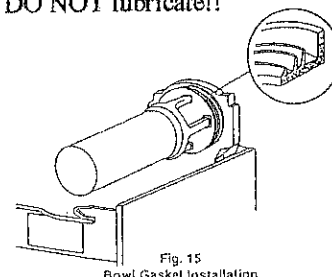

Fig. 15
3. Fit bowl gasket around its seat (Fig. 15). Note: The largest brim of the gasket must face against the rear wall. Note: For ease of insertion wet the gasket and container rim. DO NOT lubricate!!